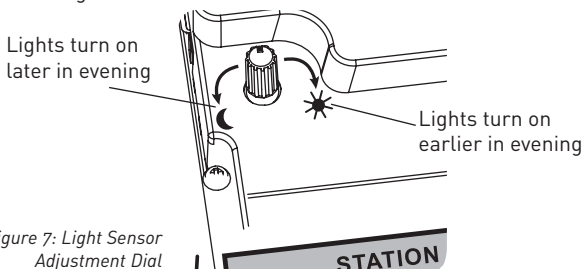

Figure 7: Light Sensor Adjustment Dial
- If you desire the light sensor to turn the lights on early in the evening, turn the light sensor adjustment dial clockwise toward the sun. If you desire the light sensor to turn the lights on later in the evening, turn the light sensor adjustment dial counter-clockwise toward the moon. (See figure 7.)